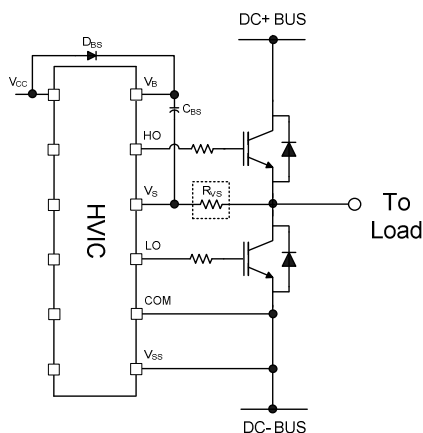

Figure 36:  $V_S$  resistor
**Routing and Placement:** Power stage PCB parasitic elements can contribute to large negative voltage transients at the switch node; it is recommended to limit the phase voltage negative transients. In order to avoid such conditions, it is recommended to 1) minimize the high-side emitter to low-side collector distance, and 2) minimize the low-side emitter to negative bus rail stray inductance. However, where negative  $V_S$  spikes remain excessive, further steps may be taken to reduce the spike. This includes placing a resistor (5  $\Omega$  or less) between the  $V_S$  pin and the switch node (see Figure 36), and in some cases using a clamping diode between  $V_{SS}$  and  $V_S$  (see Figure 37). See DT04-4 at [www.irf.com](http://www.irf.com) for more detailed information.